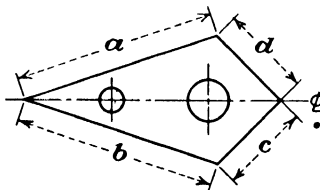

Fig. 62.
3. Find the missing dimensions in Fig. 62.